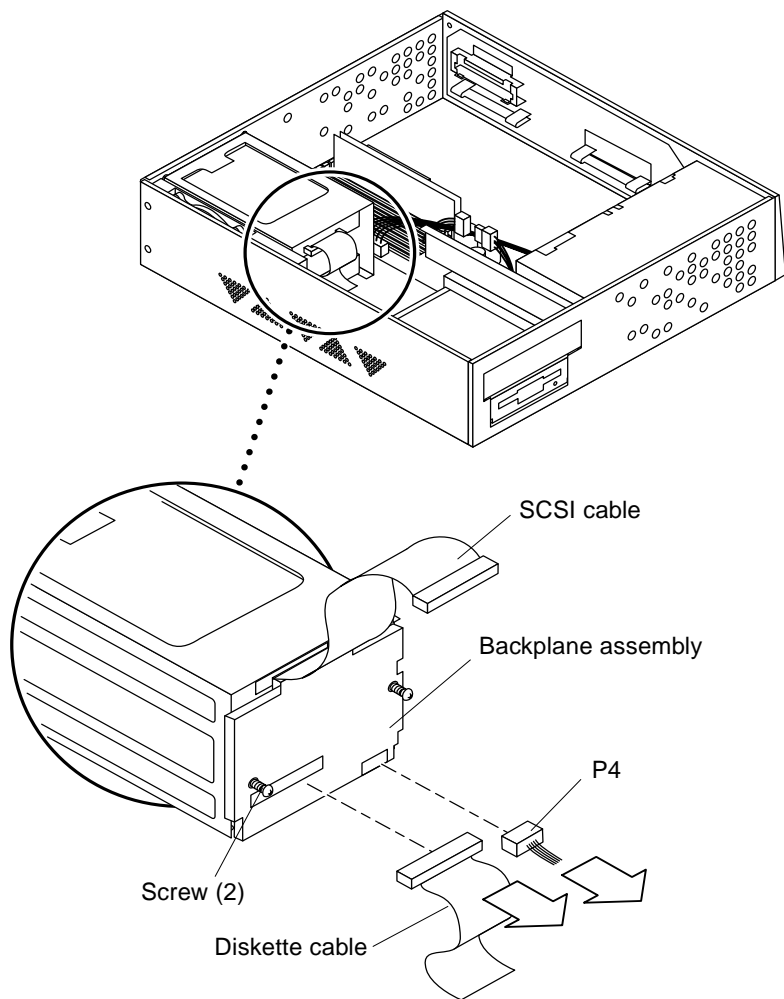
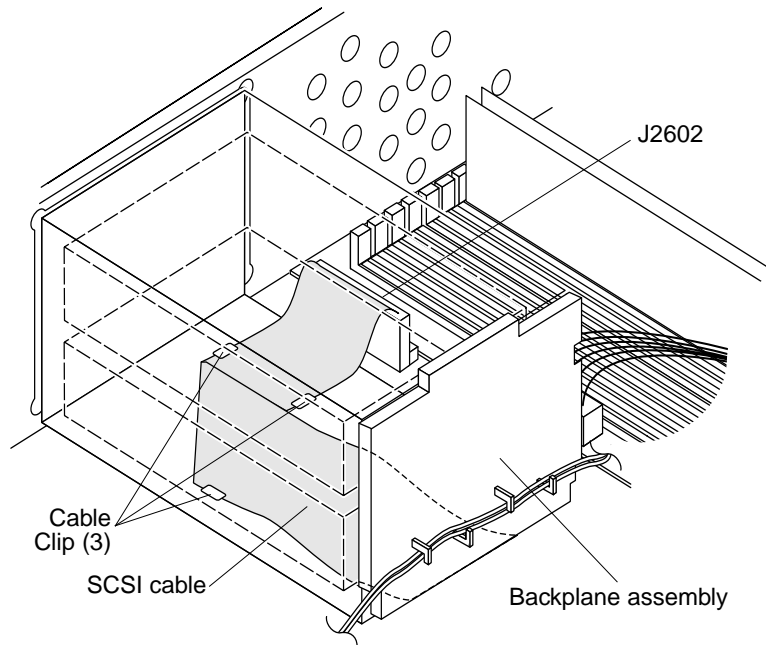

FIGURE 8-14 SCSI/Backplane Assembly Cable Connection
FIGURE 8-15 Removing the Backplane Assembly
6. Disconnect the following (FIGURE 8-14 and FIGURE 8-15):
1. Route the SCSI cable under the three cable clips in the base of the chassis and through the opening near the front edge of the system board (FIGURE 8-15).
5. Connect the following (FIGURE 8-14):